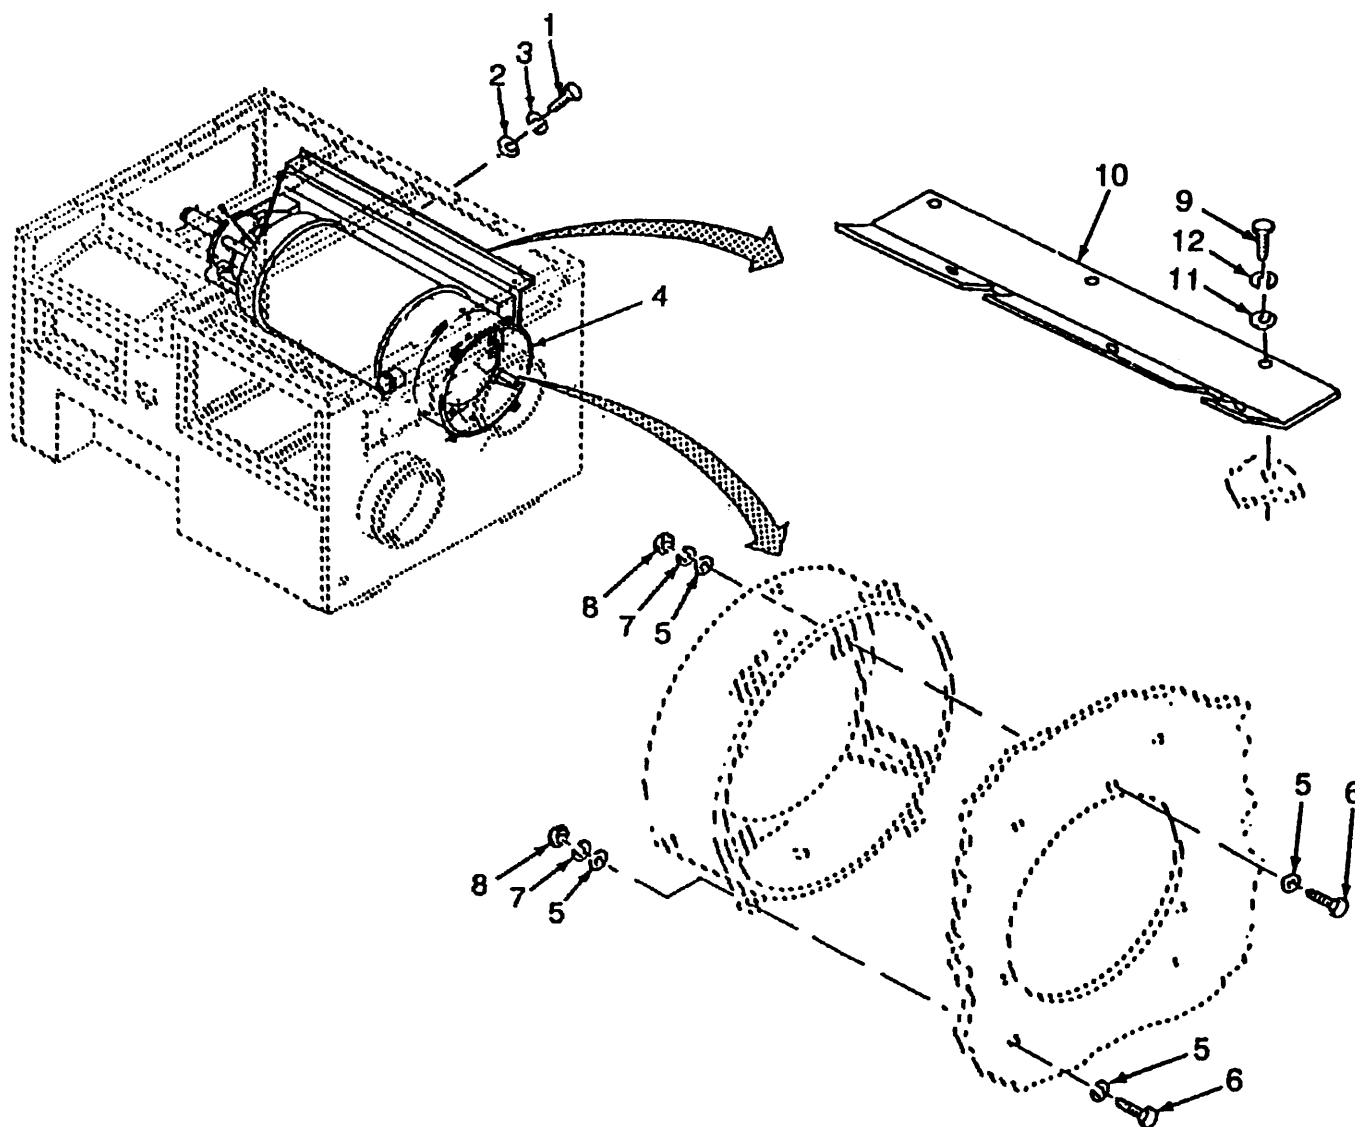

Figure 5-20. Heat Exchanger, (Model H120). Installation
f. Installation - continued (Refer to Figure 5-20)
- (5) Apply anti-seize compound (Item 3, App E) to six screws (1). Install six flat washers (2), six lockwashers (3), and six screws (1). Hand tighten only.
- (6) Align the front mounting tabs on heat exchanger (4) with the front of unit.
- (7) Install fourteen flat washers (5), seven screws (6), seven lockwashers (7), and seven nuts (8).
- (8) Tighten all the hardware. installed in steps (2) and (5).
- (9) Apply anti-seize compound (Item 3, App E) to six screws (9). Install heat exchange shield (10), six flat washers (11), six lockwashers (12) and six screws (9).